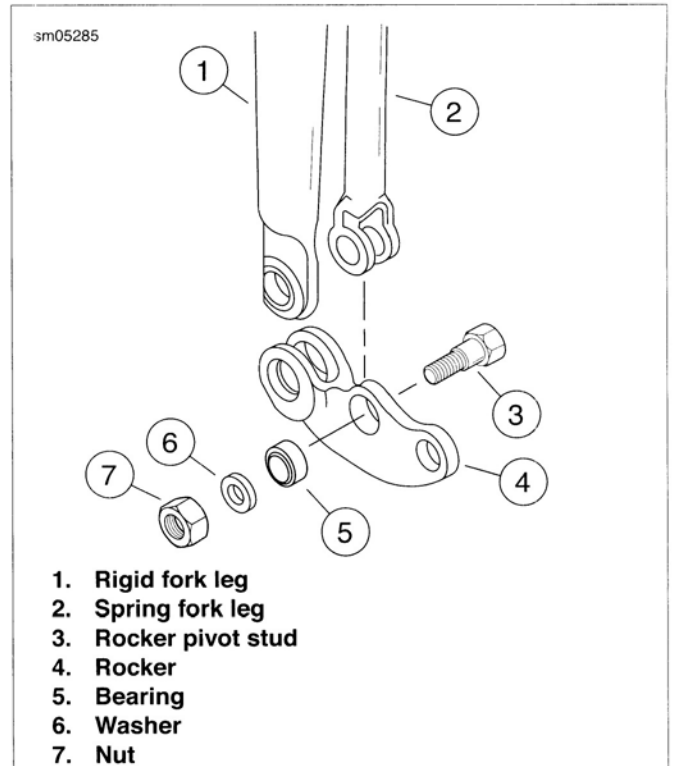

Figure 2-72. Rocker Assembly
11. See Figure 2-72. Remove rocker pivot studs (3), washers (6) and nuts (7) from rockers (4).
12. Inspect bearing (5) and replace if necessary.
2. Place inner/lower compression spring (7) over lower spring rod and spring seats.
4. Install lower spring rod acorn nut (8).
5. Use a #2 Phillips head screwdriver in the cross-hole at the bottom of the spring rod assembly (5). Tighten lower spring rod acorn nut to 20-25 ft-lbs (27.1-33.9 Nm).
6. Place inner/upper compression spring (4) on spring seats.
7. Place outer compression spring (3) over the inside compression springs.
8. Install compression spring cup (2) and lower rubber travel bumpers (1).
12. See Figure 2-72. Place spring fork lower end in position in rocker (4).
13. Make sure bearing (5) is properly inserted in rocker (4).
14. Install thick head pivot stud (3), from outboard side, with thick washer (6) and nut (7). Tighten nut to 45-50 ft-lbs (61.0-67.8 Nm).